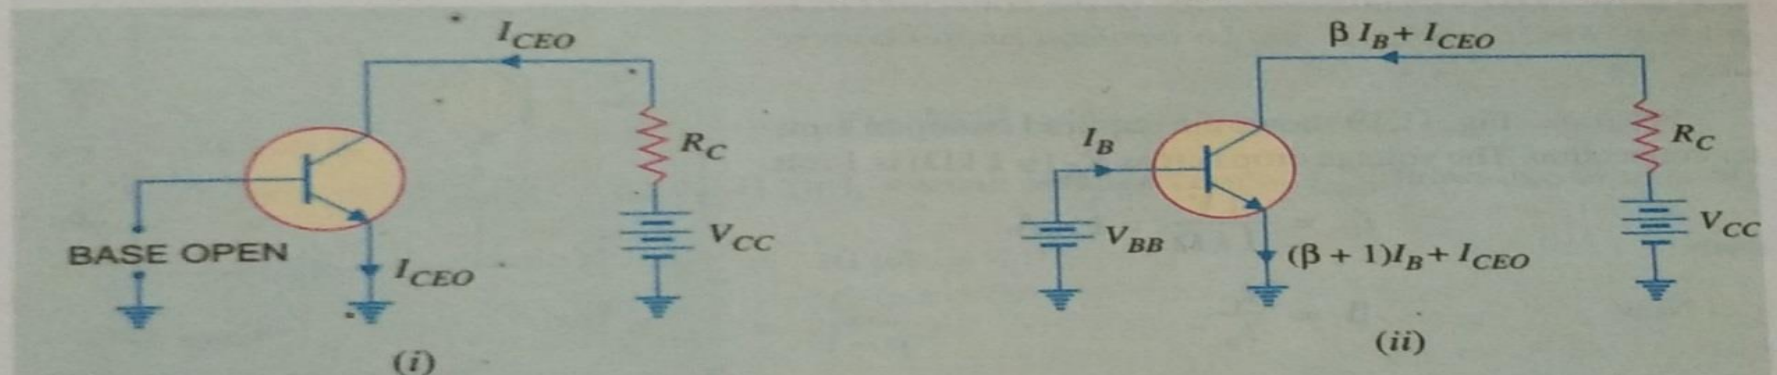

Fig. 11.17
**Concept of  $I_{CEO}$ :** In CE configuration, a small collector current flows even when the base current is zero [See Fig: 11.17 (i)]. This is the collector cut off current (i.e. the collector current that flows when base is open) and is denoted by  $I_{CEO}$ . The value of  $I_{CEO}$  is much larger than  $I_{CBO}$ .
When the base voltage is applied as shown in Fig. 11.17 (ii), then the various currents are :